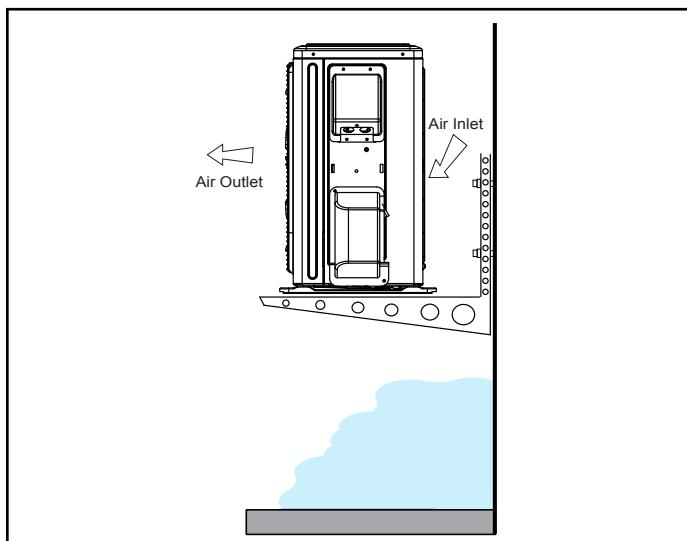

Figure 24. Outdoor Unit on Brackets above Snow Line
- The unit base should be elevated above the depth of average snows as illustrated in Figure 24.